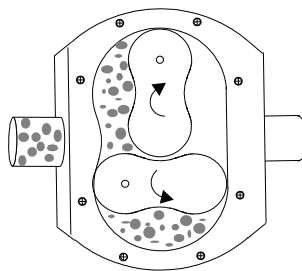

Figure 2
2. The product is contained in the rotor case chamber (Figure 2).